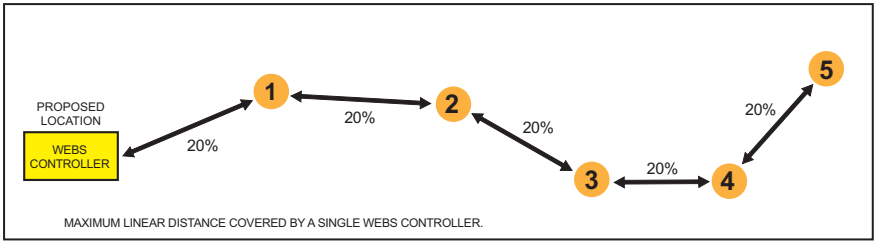

Fig. 12. Maximum of 5 hops from controller.
- Repeat steps 2-5 until you establish the maximum range covered by 5 hops where the last position recorded represents the safest furthest position that can be covered by a single controller (Fig. 12) and